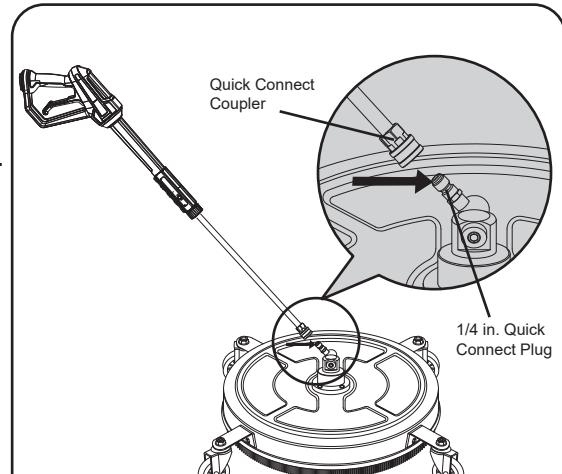

Figure 1
See Figure 1.
2. Attach the surface cleaner's 1/4 in. quick connect plug into the end of the pressure washer wand (See Figure 1).